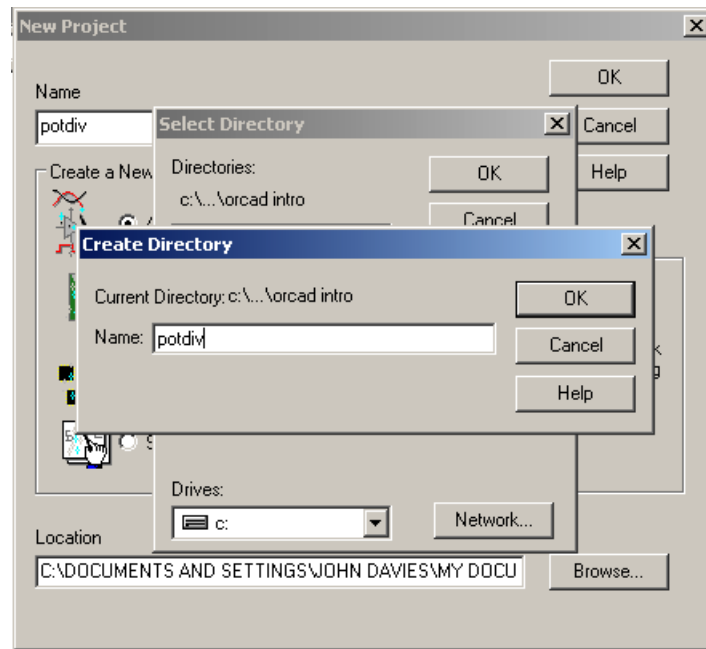

Figure 2. Dialogue boxes to create a directory for a new project.
3. Create a directory for the new project if you have not done this already. See figure 2.